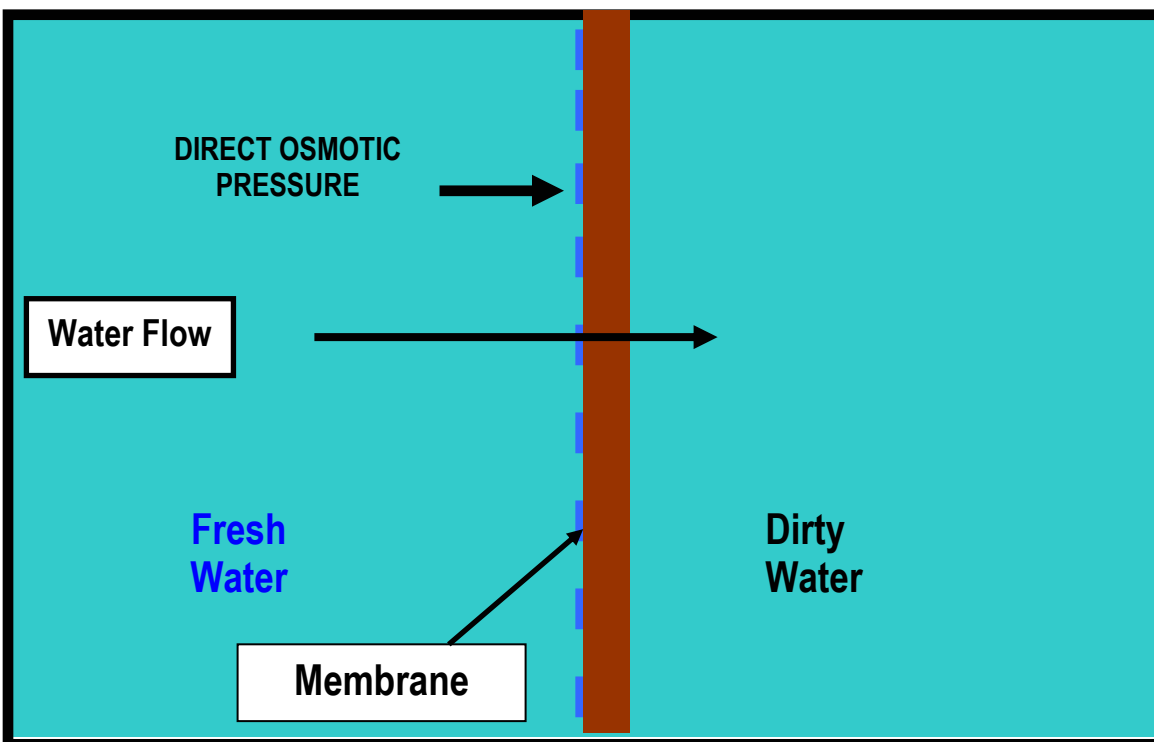

Figure 1.3 The Principle of Osmosis
- Figure 1.3 illustrates this concept.